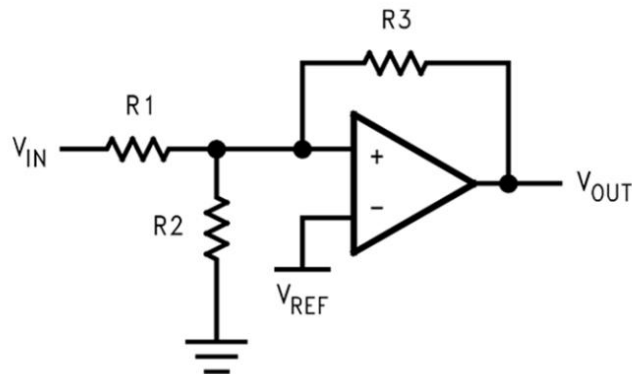

Figure 14. Additional Hysteresis
**Figure 14** shows the typical method of adding external hysteresis to a comparator. The positive feedback is responsible for shifting the comparator trip point depending on the state of the output.
If additional hysteresis is desired, this can be done with the addition of three resistors using positive feedback, as shown in **Figure 14**. The positive feedback method slows the comparator response time. Calculate the resistor values as follows: